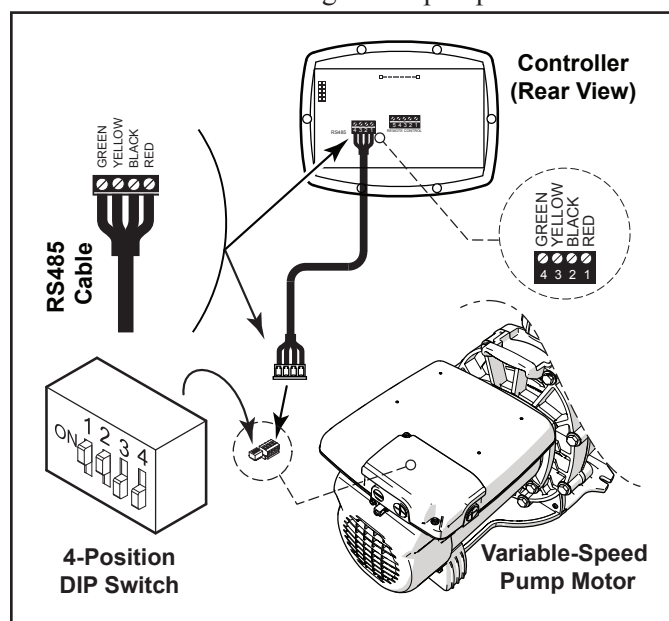

Figure 4. Wiring the Controller to the Variable Speed Pump
5. Attach the four (4) wires in the RS-485 cable to the RS-485 connector. Make sure the colors match the positions on the connector. See *"Figure 4. Wiring the Controller to the Variable Speed Pump"*
7. Set the DIP switch settings for the pump controller with the 1 and 2 in the ON position and 3 and 4 in the OFF position. See *"Figure 4. Wiring the Controller to the Variable Speed Pump"*.
For the ePump™, the VS-FHP2.0 pump and the VSPHP27, the 4-position or 5-position dip switch is located at the rear of the pump, as shown in *"Figure 4. Wiring the Controller to the Variable Speed Pump"*